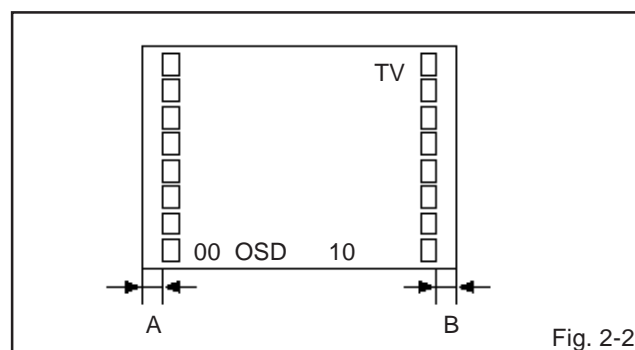

Fig. 2-2
2. Press the VOL. UP/DOWN button on the remote control until the difference of A and B becomes minimum. (**Refer to Fig. 2-2**)